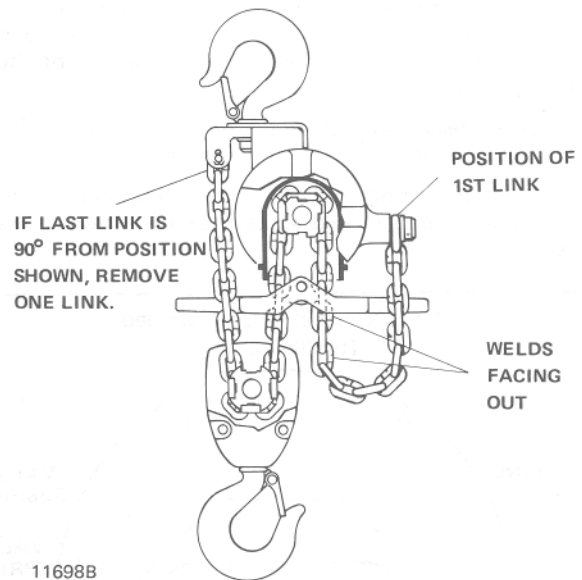

Figure 7-17. Installing Double Reeved Load Chain (3/4 and 1 Ton Models).
(1) To install roller type load chain, first temporarily install connecting link on tail end of load chain. Then, with the air off, brake cover removed, and brake shoes locked in "open" position (with wedge between control lever and hoist body), turn brake wheel in "hoist" direction and feed chain in through lever control into chain sprocket. Once chain is over sprocket, brake cover can be replaced, hoist connected to air, and the chain run through hoist under power until sufficient chain has been run through to allow tail end to be attached to boss on side of frame with chain anchor. On single reeved hoist, attach lower block to load end of chain. On double reeved hoist, run lower block assembly onto chain and attach load end of chain to lug suspension bracket.
(2) When installing coil chain on the hoist, make sure the weld on the second link faces "out" or away from the sprocket. (See Figures 7-16 and 7-17). Now, with the air off, brake cover removed, and brake shoes locked in "open" position (with wedge between control lever and hoist body), turn brake wheel in "hoist" direction and feed chain in through lever control into chain sprocket. Continue to feed the chain through until approximately 15" to 16" hangs through the tail chain side of the hoist. Take the first link and swing it up (do not twist) (see Figure 7-16) to the frame boss and fasten in place. The rest of the chain can be pulled through, and then the lower block fastened in place (on single reeved hoist). On double reeved hoist, allow approximately 17" to 18" of chain to hang on the lifting direction side (Figure 7-17). Run the lower block assembly onto chain and swing (do not twist) the remainder of the chain up and attach to lug on suspension bracket. Remove wedge from between lever and frame and replace covers.
NOTE: Chain must not be twisted and link welds must be positioned as shown in Figure 7-17.